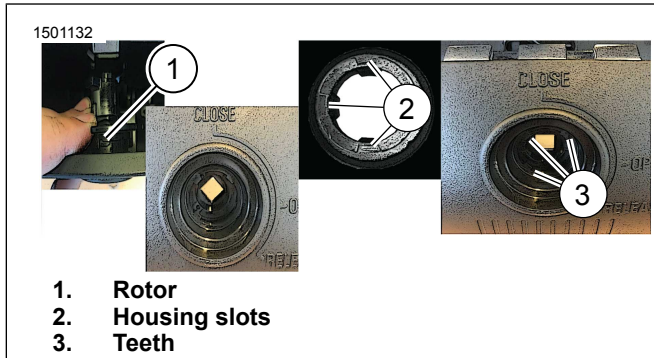

Figure 7. Housing
- See Figure 7. Position rotor (1) by hand.
- See Figure 7. Align three slots (2) on housing to three teeth (3) on release lever.